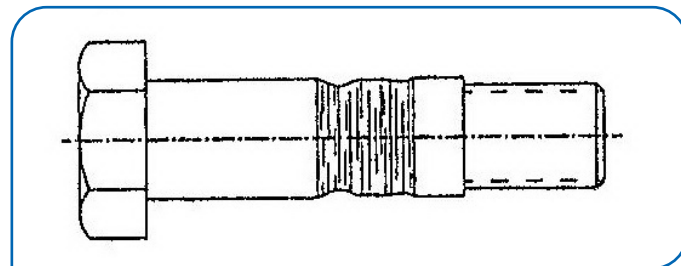
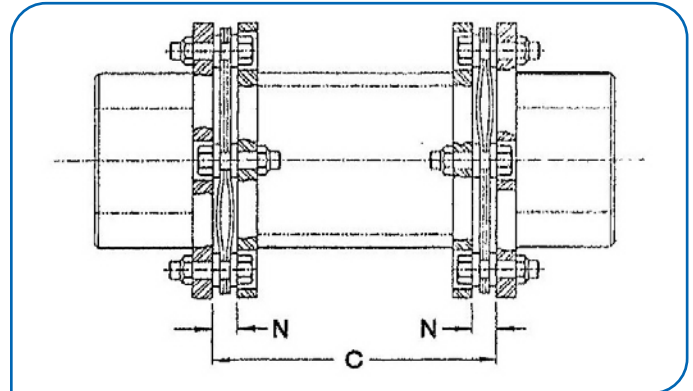

Figure 6 Do not turn the bolt during the locknut tightening process.
Figure 9 The disk pack has a bulge between the bolts, or is bowed toward one flange in alternate chord positions.
2. Disks are embedded in the bolt body. This is usually the result of a loose bolt or severe torque overloads. This can also appear when turning the bolt during installation. Replace the bolt and tighten the locknut to the specified torque. Do not turn the bolt during the locknut tightening process. See Figure 6.
5. The disk pack has a bulge between the bolts, or is bowed toward one flange in alternate chordal positions as shown in Figure 9, bolts are bent, or bolts are damaged as shown in Figure 6. This condition is a result of a large torque overload induced into the system above the peak overload capacity of the coupling. The remaining disk pack chordal sections will be very straight and tight. If the bulge appears in only one chordal section, there might be a loose bolt on one side of the distortion. Loosen all locknuts and unseat the bolts. The bulge should release and flatten out. If so, retighten the locknuts. If the distortion does not disappear, replace both disk packs and retighten the locknuts. If there is a synchronous motor driver, measure the startup torque at the motor shaft with strain gages to determine if torsional resonance causes overload torque that exceeds the peak torque capacity of the coupling. Check the coupling selection and apply the proper size and type of coupling for the characteristics of the application.